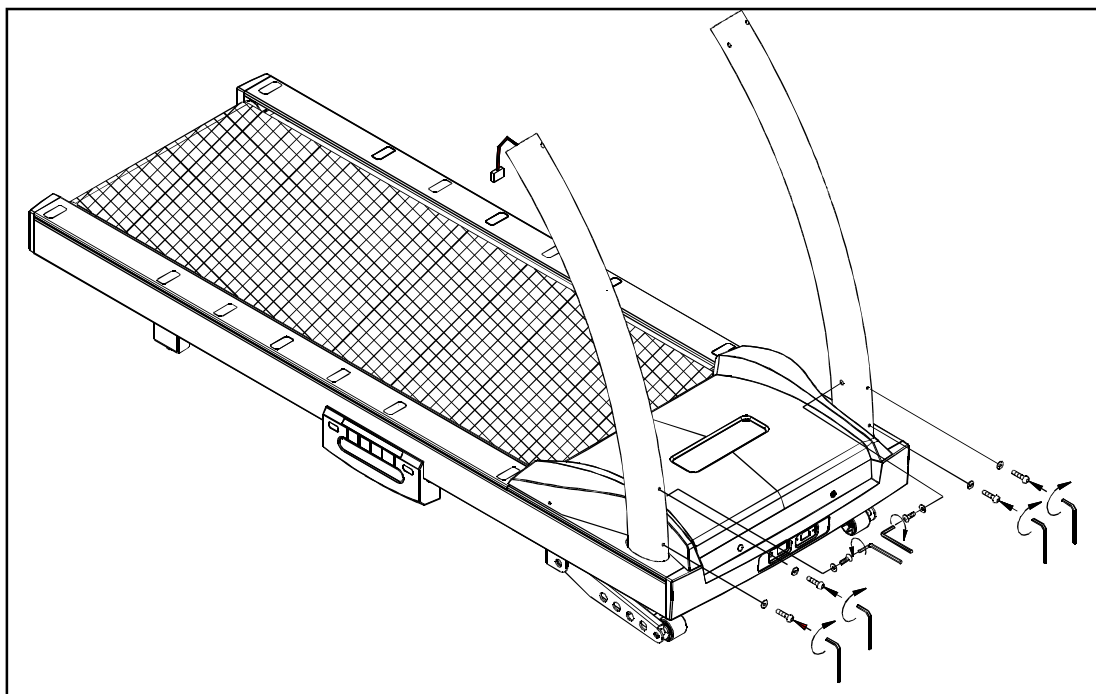

Fig.4
4. Using Hex Allen wrench (M6), secure the two upright posts. At this point, do NOT tighten securely. (see Fig.4)